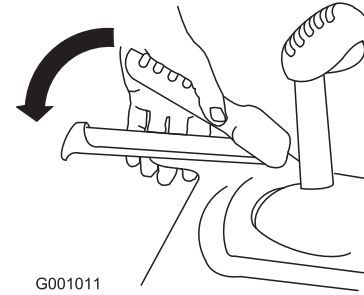

Figure 15
3. Squeeze the left hand (traction) lever to the hand-grip (Figure 15).
6. Squeeze the left hand (traction) lever to the hand-grip (Figure 15).